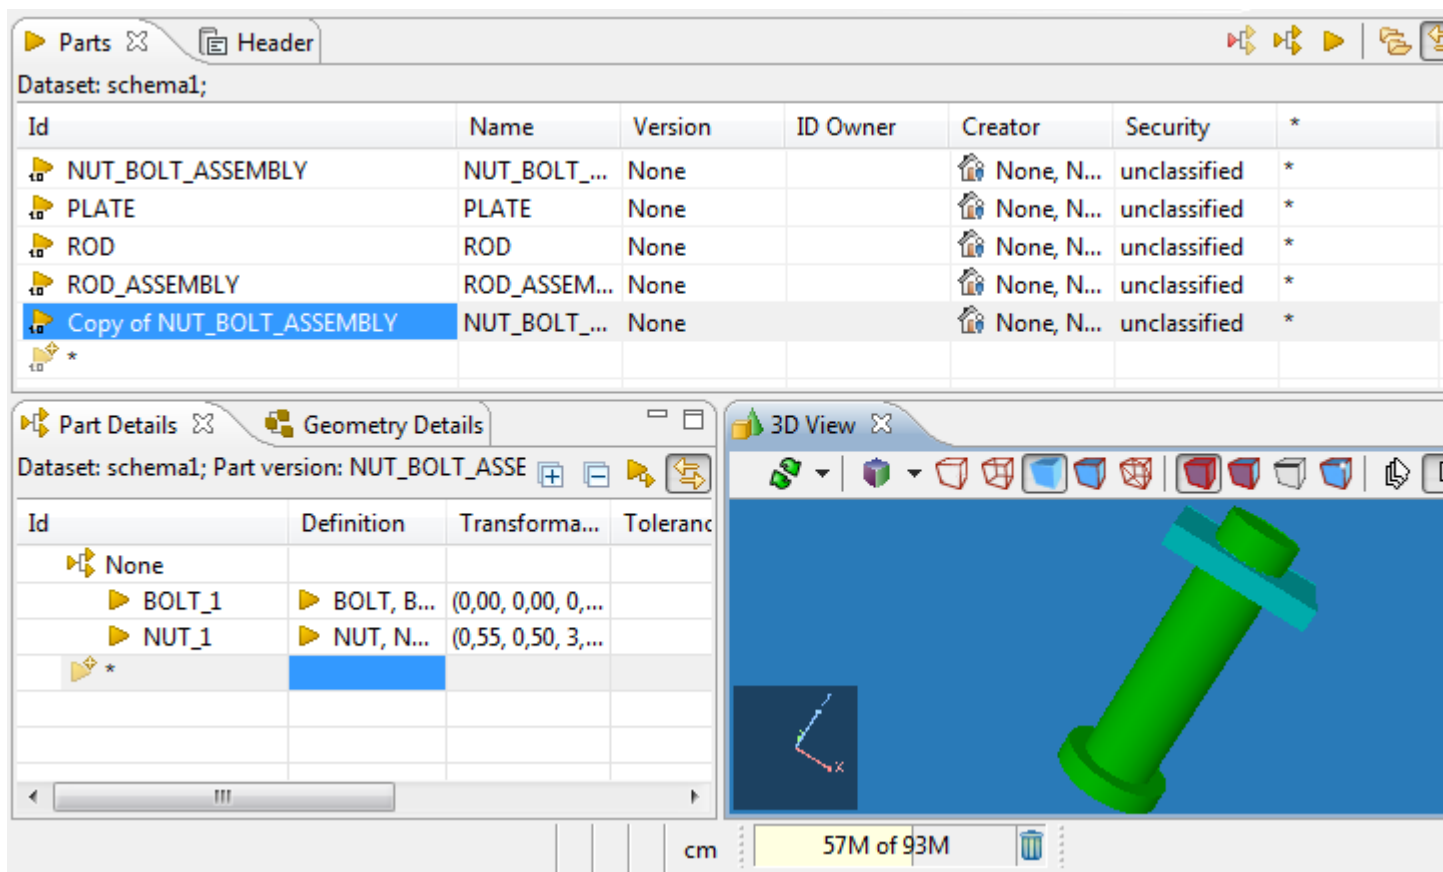

Figure 1. Copy of the part version in Parts view
- Select **Paste** menu item in the context sensitive menu or press **CTRL + V** keys. The copy of the selected part version appears in the table list (see Figure 1).
Note. The copied part version contains all data of the initial part version (Name, part definitions, components, shapes and etc. see Figure 1).